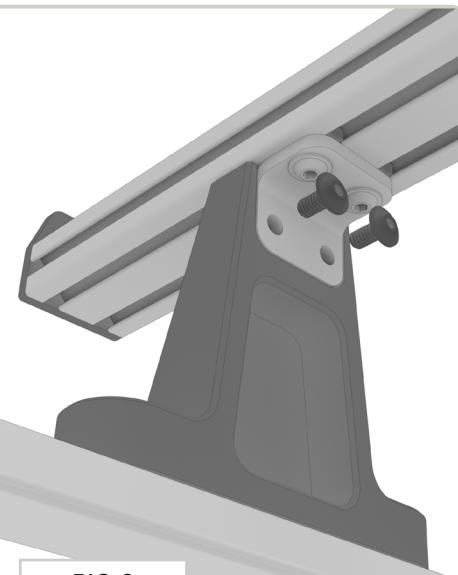

FIG 9
3.4 Attach Crossbar Bracket to Roof Rack Tower: Attach Crossbar Assembly to the pre-threaded locations of the Roof Rack Tower using (2ea) 1/4-20 x 0.5 Flanged Button Head Hex Drive Screws (FIG 9).